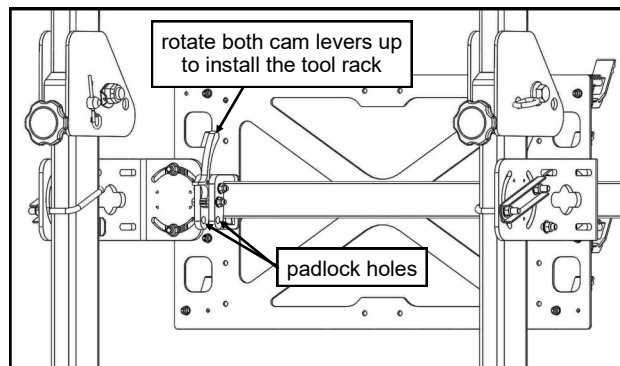

Fig. 1 (attaching the tool rack)
1. To install the tool rack, rotate both cam levers UP, then place onto the Toolbar. See figure 1.
NOTE: For additional security, the tool rack can be locked to the Toolbar by inserting a padlock through the holes in the mounting bracket where shown. See figure 1.